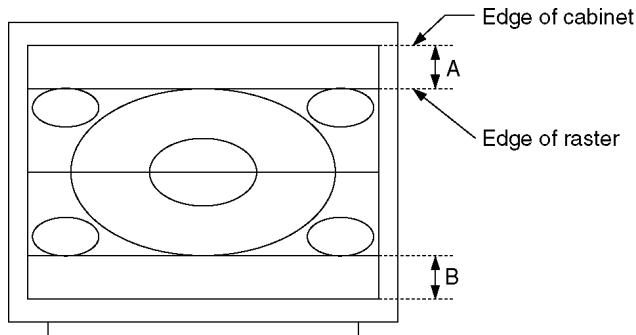

Fig. 7
4. Confirm that A, B in the Fig. 7 is 6.0cm ± 1cm, if not, adjust V-AMP (100i / 16:9).
6. Confirm that A, B in the Fig. 7 is 6.0cm ± 1cm, if not, adjust V-AMP (50p / 16:9).
9. Confirm that A, B in the Fig. 7 is 6.0cm ± 1cm, If not, adjust V-AMP (120i / 16:9).
11. Confirm that A, B in the Fig. 7 is 6.0cm ± 1cm, If not, adjust V-AMP (60p / 16:9).